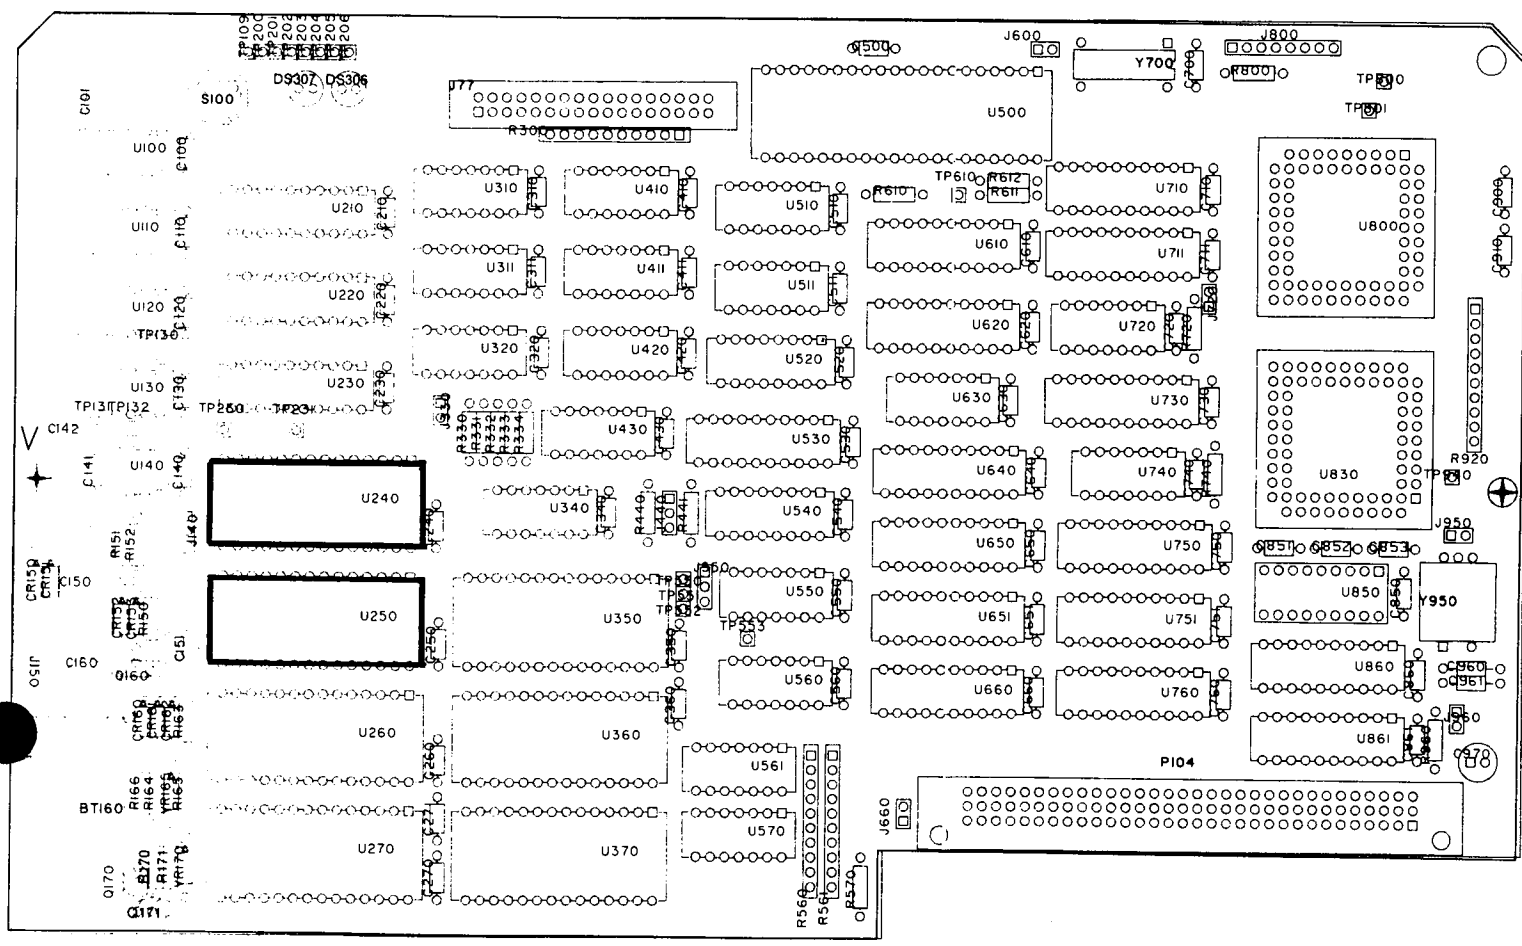

Figure 3 - Main Processor Circuit Board A17.
- () 7. Replace U240 and U250, microcircuits with the new microcircuits provided in this kit, U240, pn 160-4555-XX, and U250, pn 160-4554-XX. (refer to Figure 3 for component locations).